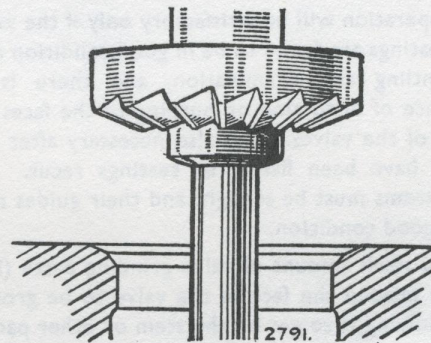
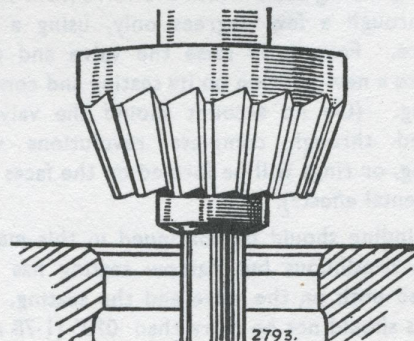

Fig. 26. Use of 15° valve seat cutter
Fig. 27. Use of 75° valve seat cutter
After recutting a seat its refaced valve should be inserted in the valve guide to check where the valve seats. If the valve comes too low in the seating a new valve should be tried. If this valve comes too low in the recut seating a 15° cutter should be used to reduce the width of the seating as shown in Fig. 26. Occasionally it is necessary to reduce the seating width from the bottom by means of a 75° cutter. See Fig. 27.
All sump joints should be fitted dry, except when working from underneath, when the side joints have to be stuck to the cylinder block bottom face. A small quantity of quick setting compound should be applied to the ends of all joints at the points (B) Fig. 26 to ensure a satisfactory oil seal in the corners. The centre sump bolts should be fitted first and all bolts progressively tightened.